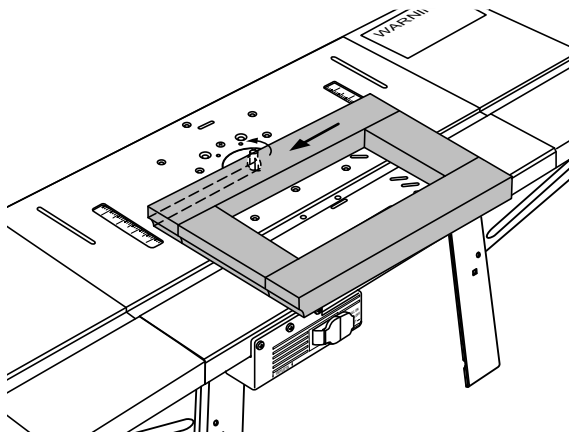

Figure 39
1. Place your workpiece on the table relative to the router bit as shown in Figure 39.